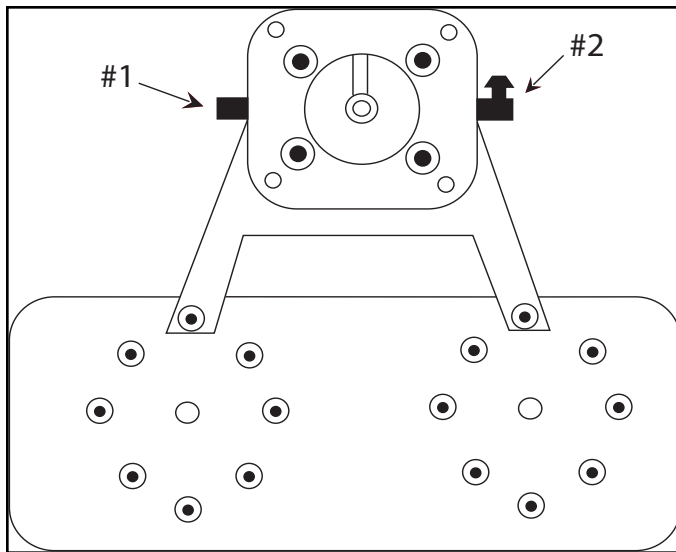

Fig. 1
**Note:** Hose fitting #1 should point straight down. (Fig. 1)
**Note:** Hose fitting #2 should point towards the side of the vessel. (Fig. 1)